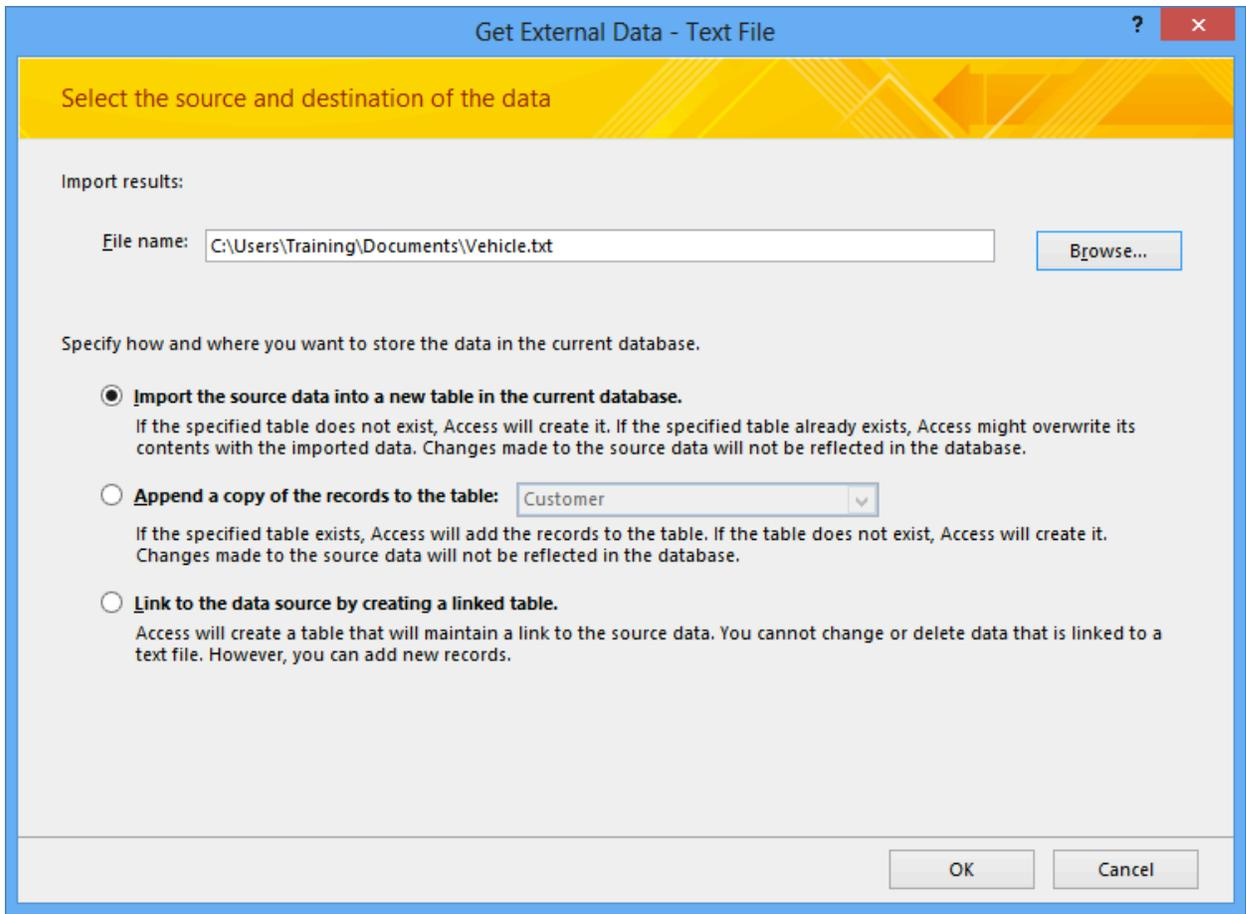

Figure 39: Source and Destination Options in the Get External Data Wizard
3. Select the Data Storage Option: Choose "Import the source data into a new table in the current database." as shown in Figure 39. Click **Next**.